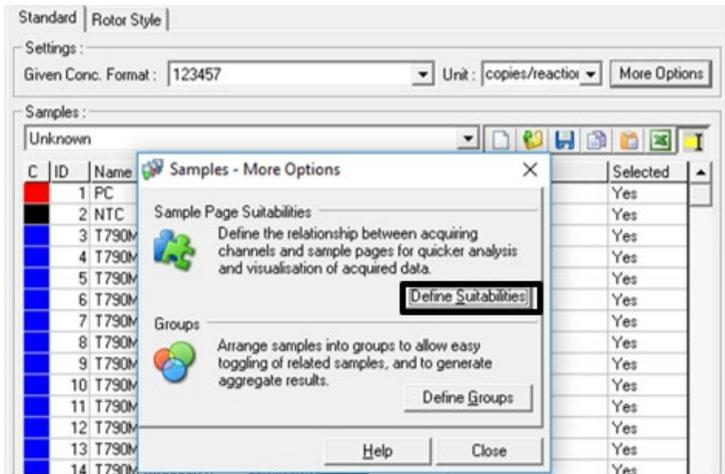

Figure 31. Sample Page Suitabilities.
19. Select the **green channel** for page 1/T790M, **red channel** for page 2/L861Q, and **yellow channel** for page 3/IC. Click **Save and Close**. Click **Close** to close the “Sample Page Suitabilities” dialog box (Figure 31).